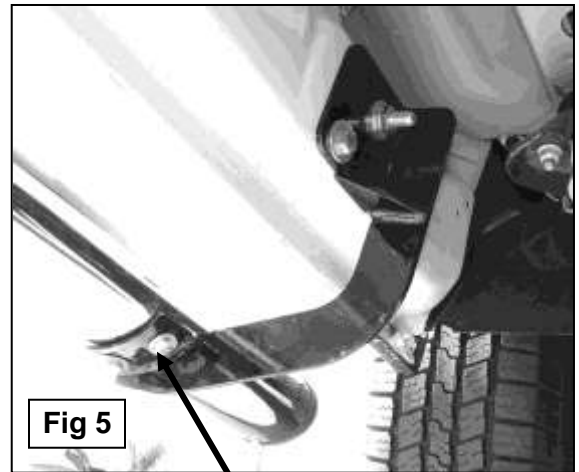

Fig 5
- Once all of the driver side Brackets have been installed, carefully position the driver Sidebar onto the (3) Mounting Brackets. Attach the Sidebar to the cradles on the Mounting Brackets with the included (6) 8mm x 25mm Hex Bolts, (6) 8mm Lock Washers, and (6) 8mm Flat Washers, **(Figure 5)**. Do not tighten hardware at this time. **IMPORTANT:** If you are having any